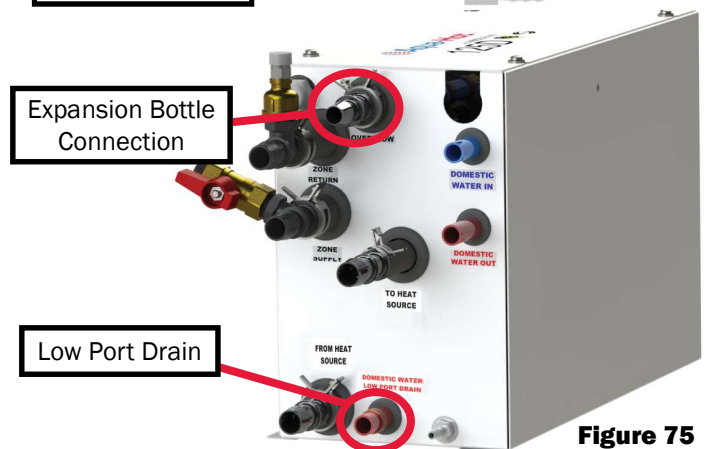

Figure 75
1. Completely drain the fresh water storage tank using the Low Port drain (Figure 75).